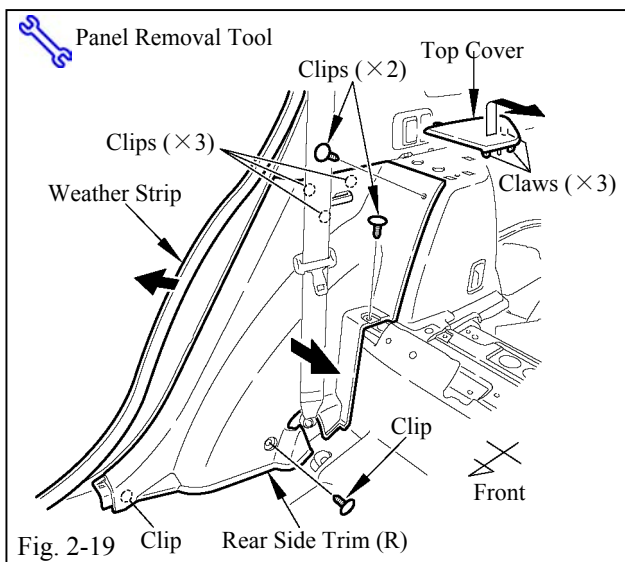

Fig. 2-19
(u) Remove the rear side trim (R) (Fig. 2-19).
(1) Pull the top cover in the direction of the arrow to remove it.